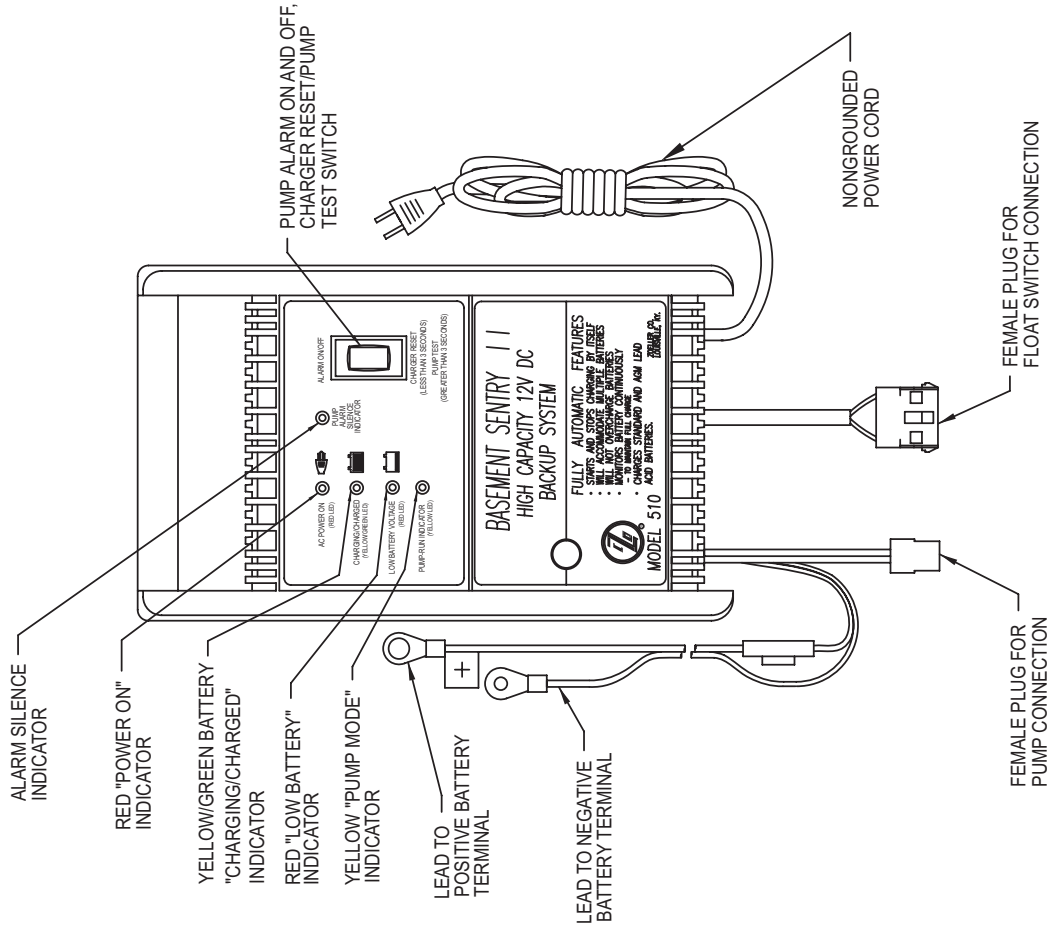

FIGURE 6
2. Check DC pump backup control system as follows. Refer to fig. 6.